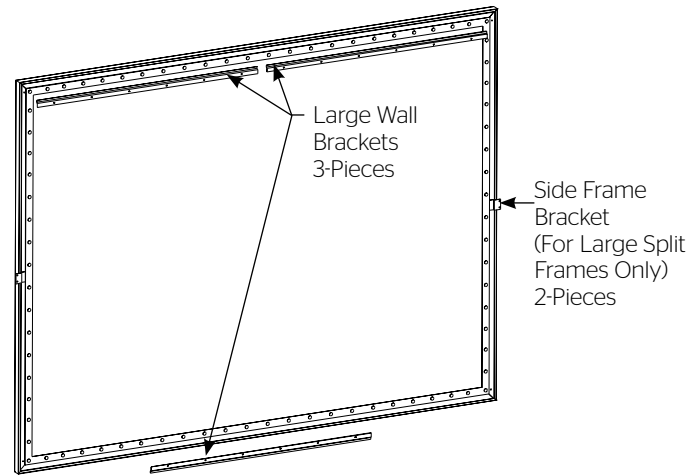

Figure 7
3. For custom large screen sizes with 2-piece side frame rails, you will need to attach one Side Frame bracket to each side at the joint. Use the black #10 screws supplied. See Figure 7.